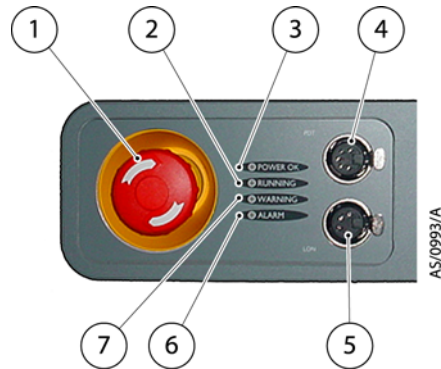

Figure 6 - The front panel controls
5. Ensure that access is possible to the emergency stop button (refer to Figure 6, item 1), if not use an iH Disconnect Box (refer to Section 6.3).